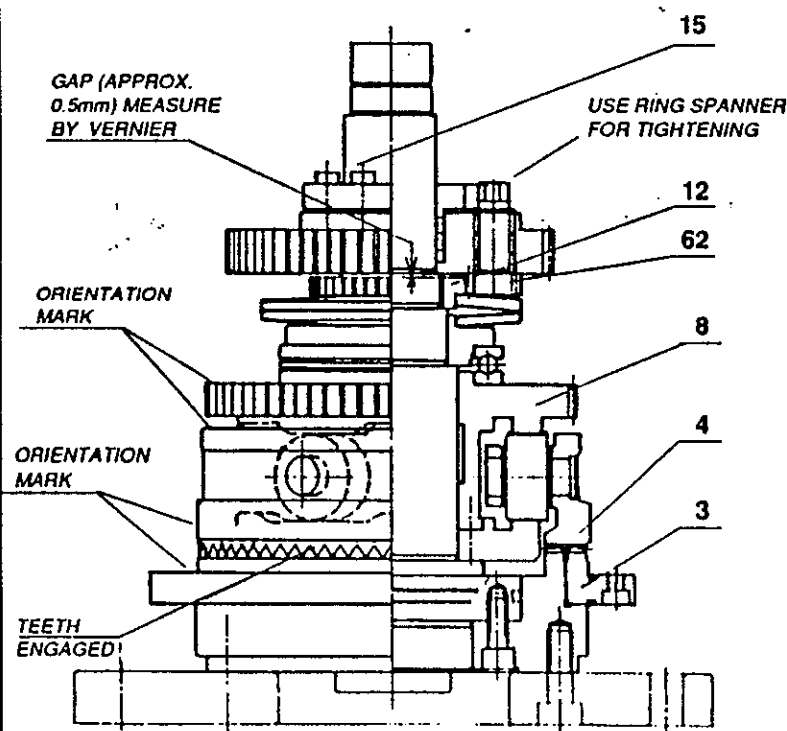

FIG 17.5 'LOADING' OF DISC SPRINGS
- Loosen clamping screws (15) of friction ring coupling and pull out the index gear (13).
- Remove anti-rotation key (16).
- Release clamping bolts (2), use extraction screws and pull out the spindle assembly.
16.2 Dismantling of disc spring and drum-cam assembly (fig. 17.5).
- Considerable force is required to loosen the nut (12). To release the nut, clamp the index gear assembly (fig. 17.5) back in position. This will engage the pinion (162) onto the gear teeth of the nut (12). Now the nut can be released by turning the pinion with the help of a spanner.
17.18 Final sub assembly. (fig 17.5): Align orientation marks on fixed coupling (3) and sliding coupling (4). Also align orientation marks on cam gear (8) and sliding coupling (4).